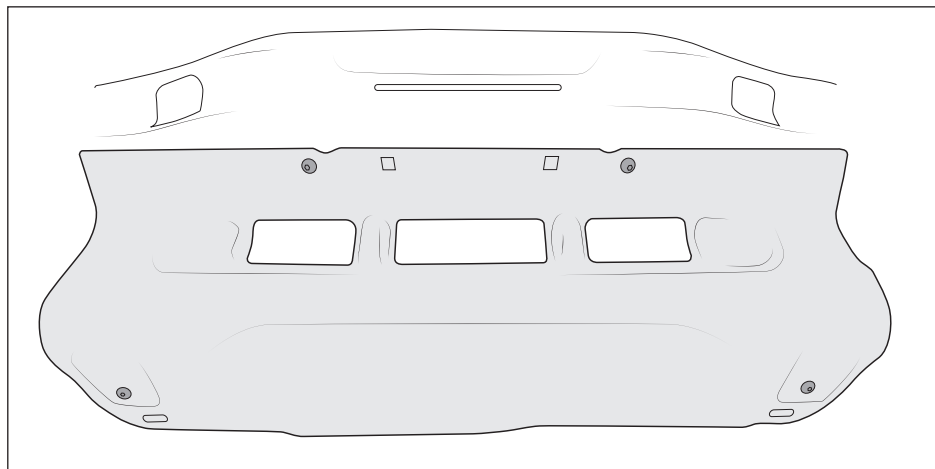

Figure 30
5. Install the skidplate using four of the provided black M8x25mm button head bolts and washers. Start by loosely installing bolts through lower portion of skidplate into U-nuts from previous step. Then rotate the skidplate up so flat front flange sits flush against bumper center and install only the two inboard front bolts at this time. The outboard mounting bolts will be installed after the tow loops in the next step. Snug all four bolts (fig. 30).